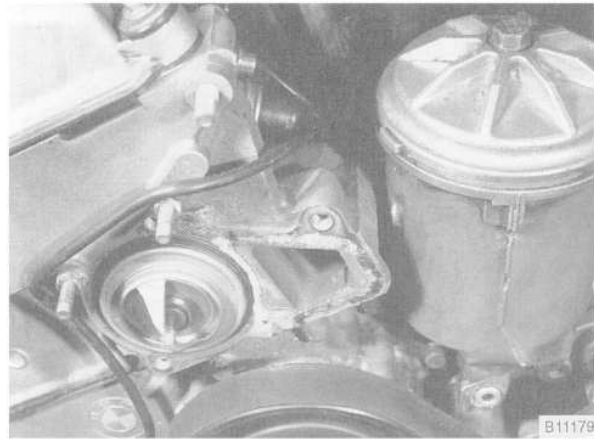

Fig. 16. Thermostat housing shown removed on M50 engine.
- On M20, M30, and M50 engines, the thermostat is mounted in the thermostat housing on the front of the engine. See Fig. 16.